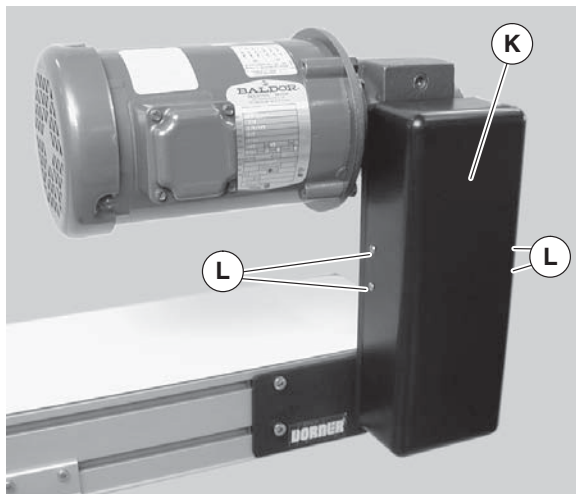

Figure 11
- Install cover (Figure 11, item K) with four (4) screws (L). Tighten screws to 35 in-lb (4 Nm).
1. Remove four (4) screws (Figure 11, item L) and remove cover (K).
4. Install cover (Figure 11, item K) with four (4) screws (L). Tighten screws to 35 in-lb (4 Nm).
6. Install cover (Figure 11, item K) with four (4) screws (L). Tighten screws to 35 in-lb (4 Nm).